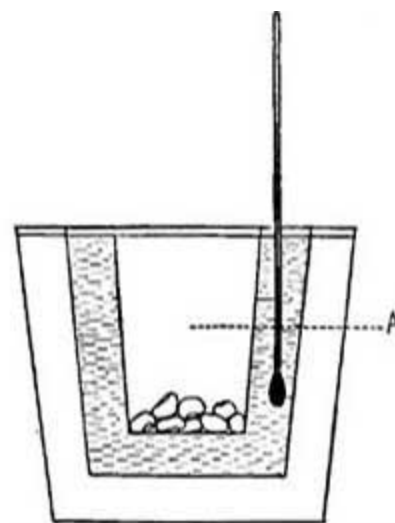

FIG. 26.—The bomb calorimeter from which the fuel value of food can be estimated.
The fuel value of a food is determined by means of the *bomb calorimeter* (Fig. 26). The food substance is put into a chamber *A* and ignited, and the heat of the burning substance raises the temperature of the water in the surrounding vessel. If 1000 grams of water are in the vessel, and the temperature of the water is raised 2° C., the number of calories produced by the substance would be 2000, and the fuel value would be 2000 calories.^[A] From this the fuel value of one quart or one pound of the substance can be determined, and the food substance will be said to furnish the body with that number of heat units, providing all of the pound of food were properly digested.
62. The Fats. The best-known fats are butter, lard, olive oil, and the fats of meats, cheese, and chocolate. When we test fats for fuel values by means of a calorimeter (Fig. 26), we find that they yield twice as much heat as the carbohydrates, but that they burn out more quickly. Dwellers in cold climates must constantly eat large quantities of fatty foods if they are to keep their bodies warm and survive the extreme cold. Cod liver oil is an excellent food medicine, and if taken in winter serves to warm the body and to protect it against the rigors of cold weather. The average person avoids fatty foods in summer, knowing from experience that rich foods make him warm and uncomfortable. The harder we work and the colder the weather, the more food of that kind do we require; it is said that a lumberman doing heavy out-of-door work in cold climates needs three times as much food as a city clerk. Most of our fats, like lard and butter, are of animal origin; some of them, however, like olive oil, peanut butter, and coconut oil, are of plant origin.